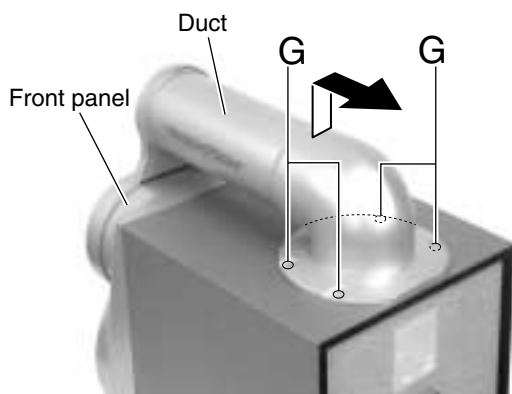

Fig.8
**■ Removing the duct (See Fig.8)**